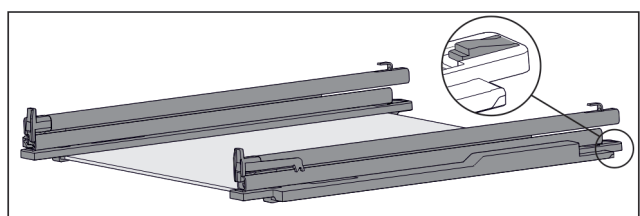

Fig. 105 Glass shelf with rails and retaining parts
- ▶ Press down retaining part at the rear (see Fig. 105) and at the same time push the rail back.